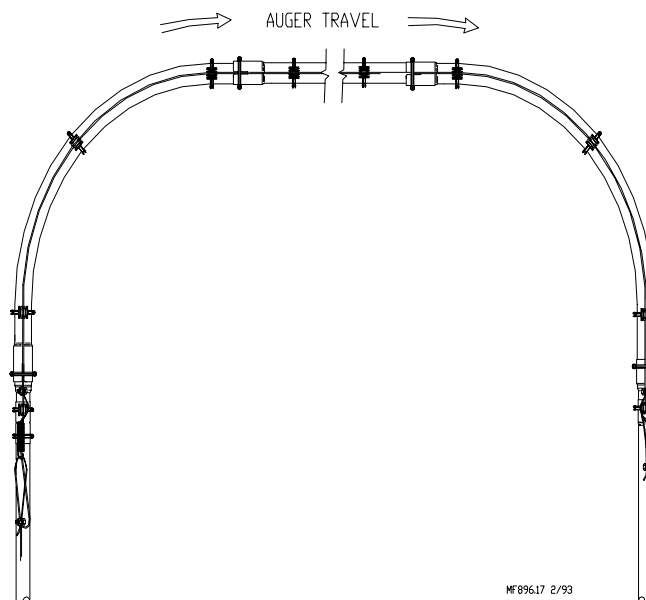

Figure 48. (Top View)
14. Anti-Roost Clamps must be installed around the elbows, as shown in **Figure 48**.
The Anti-Roost Wire is provided to be used around the elbows. Snap it down in the center groove of the insulators on the elbows, and on the insulators immediately before and after the elbows. See **Figure 48**.